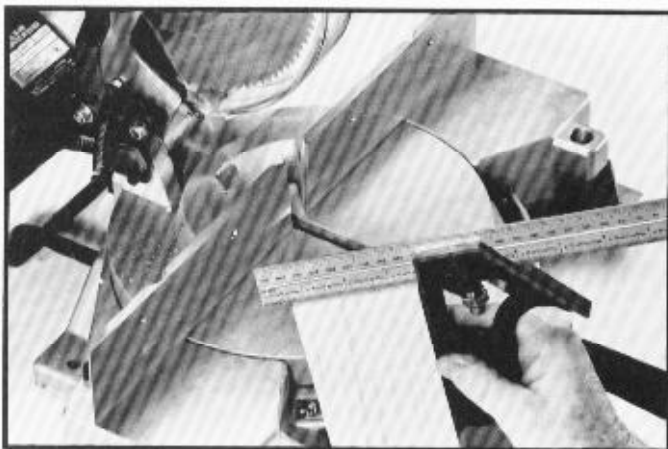

Fig. 23
3. Using a square, check to see if the piece of wood was cut at 90 degrees, as shown in Fig. 23.